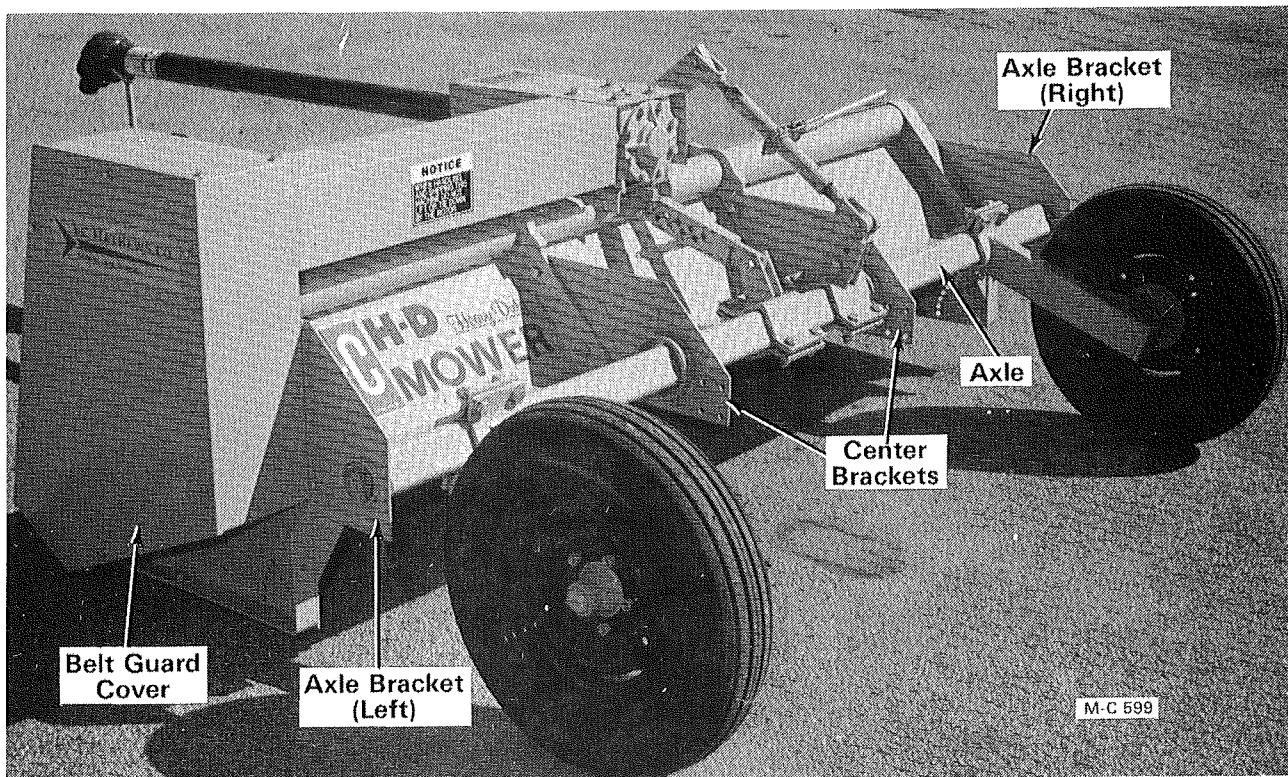

Figure 8 - Model 8 HDC
1. Remove the belt guard cover. Remove and discard the two capscrews securing the belt guard back plate to the rear of the mower body. These two holes will be used to mount the axle bracket. Mount the axle bracket as shown in Figure 8 with two $\frac{1}{2}$ -13 x $1\frac{1}{4}$ " (Grade 5) hex-head capscrews, lockwashers and hex-nuts.
2. Install the two center brackets on the rear body ribs, see Figure 8. Use two $\frac{5}{8}$ -11 x $1\frac{3}{4}$ "
3. Slide the rear axle through the center brackets and into the axle bracket on the left side. Place the other axle bracket over the end of the axle and mount it to the right side of the mower body with two $\frac{1}{2}$ -13 x $1\frac{1}{4}$ " (Grade 5) hex-head capscrews, lockwashers and hex-nuts, see Figure 8.
10. Install the wheel mount and hub assemblies to the rear axle, see Figure 8. Tighten the wheel mount clamps so both wheels contact the ground at the same time. The position or spacing on the axle can be adjusted for your